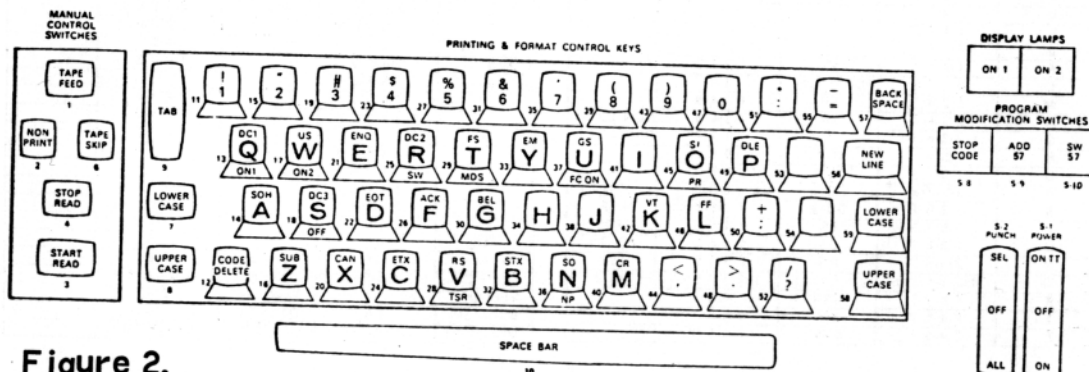

Figure 2.
3. Alpha keylevers that have red-filled engraved symbols over the alpha symbols (Figure 2) will punch the control code for that symbol in a tape under the following conditions: